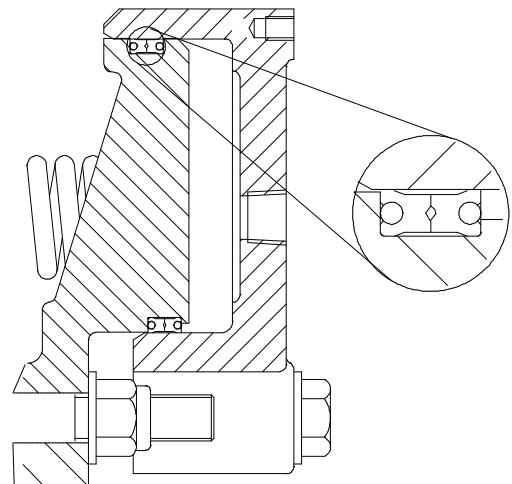

Figure 10
- 4.6.4 Insert new seals into the grooves, noting the orientation of the seals per Figure 10.
- 4.9.2 Lubricate the seals (21)(23)(114) with Dow Corning 55M O-ring lubricant, and install them into the seal grooves on the piston (33). Note the orientation of the seal lips, per Figure 10. Lubricate the seal surfaces in the mounting flange / cylinder (112) and evenly insert the piston into the mounting flange / cylinder.
**The locknuts (18) and sleeve nuts (106) must be tightened gradually to prevent damage to the brake components.**
- 4.9.23 Lubricate the seals (21)(23) with Dow Corning 55M O-ring lubricant, and install them into the seal grooves on the spring housing (16). Note the orientation of the seal lips, per Figure 10.